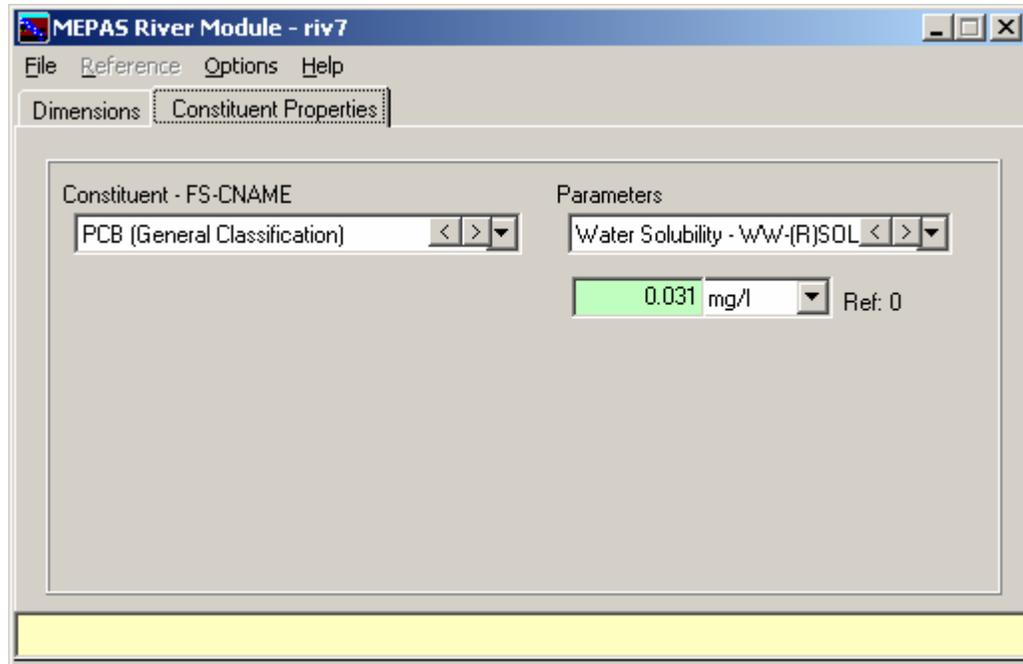

Figure 34. MEPAS River Module – Constituent Properties tab
- *Constituent Properties Tab (chemical properties for each constituent) – Figure 34*